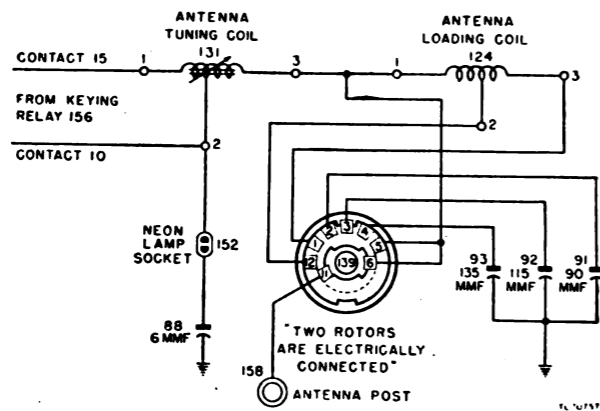

Figure 42. Antenna tuning network stage schematic of transmitter of Radio Receiver and Transmitter BC-1306.
*a.* STAGE DATA. (1) Antenna-tuning network stage schematic, figure 42.
(2) Parts identification illustrations.
Table XXI. Parts data, antenna network (transmitter) (fig. 42).